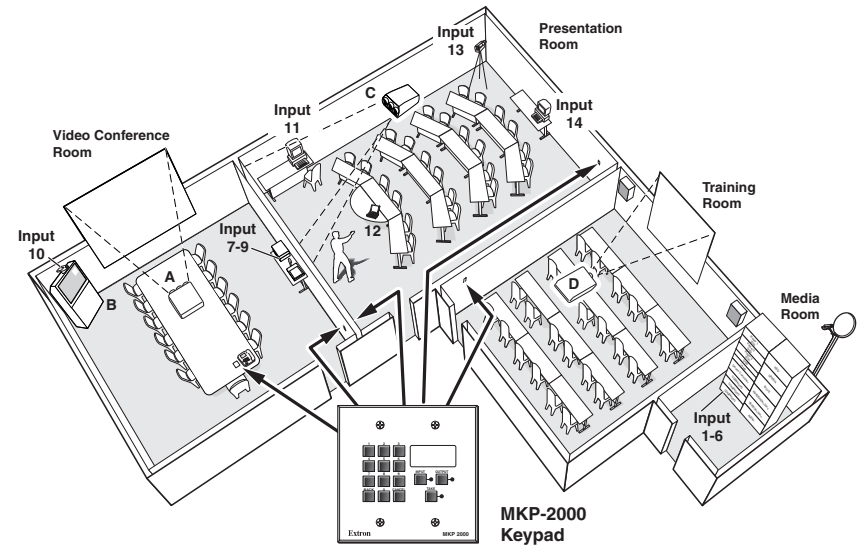

Figure 1-1 — Typical MKP 2000 applications
Although the matrix switcher system can have up to 128 inputs and 128 outputs, a conference room may have 3 input devices and 2 output devices, a training room next door may have 4 input devices and 1 output device, and so on. Typically, each room will have one or more MKP control panels assigned to it, with each MKP limited to the inputs and outputs that it can control. In the example in Figure 1-1, the "presentation room" (top center) has one output device, projector (C) and four input devices: a video camera (13), a laptop computer (12) and two PCs (11 and 14). The "Media Room" contains the matrix switcher, as well as other inputs (1-6) and possibly some control device(s).